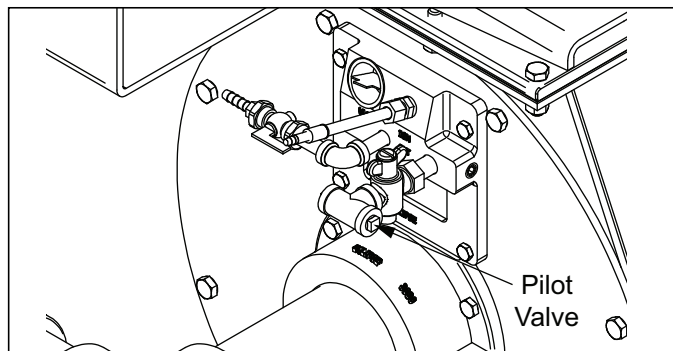

Figure 4.18. Pilot Valve Adjustment
3. Turn the internal screw (Figure 4.18) counterclockwise to increase flow, clockwise to decrease flow, until the pilot gives reliable ignition and a steady flame signal with minimum pilot gas flow.